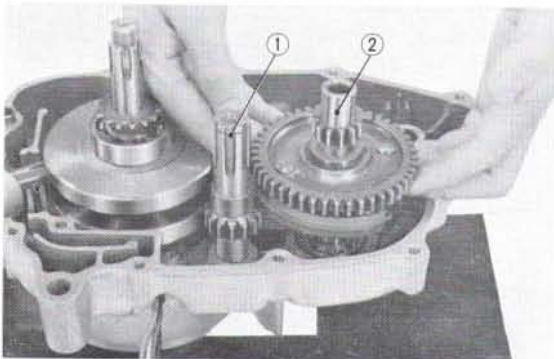

Fig. 2.38 ① Mainshaft ② Countershaft
13. Remove the counter shaft assembly and the main shaft assembly. (Fig. 2.38)